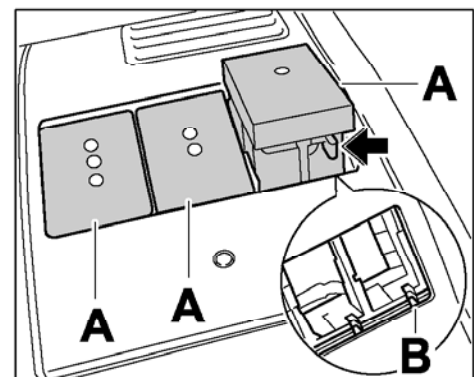

Figure 15
- 4.3 Clip switches ⇒ *Figure 15-A-* into trim. The guide ⇒ *Figure 15-arrow-* must be inserted into the groove ⇒ *Figure 15-B-* on the trim for switches.